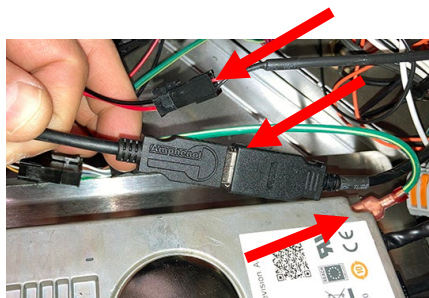

Figure 9
9. Disconnect the ground cable and the speaker cable and the USB cable (if applicable) (see Figure 9).